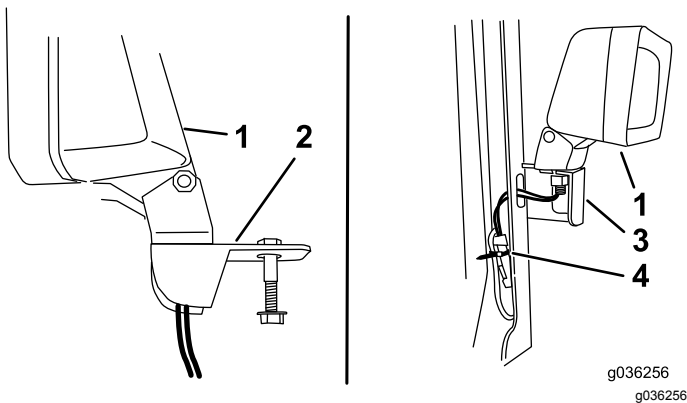

Figure 1
4. Remove the front road lights and mounting brackets from the front platform (Figure 1).
12. Install the front lights onto the front left and right braces (Figure 1).